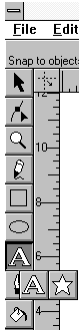

Fig. 2
2. Begin by placing a resistor on the page. Select the text symbol (the Large A) and hold down on the mouse button until both the A symbol and Star symbol fly out. Select the Star icon by clicking on it. **Figure 2** shows what you should see happening on the tool bar.